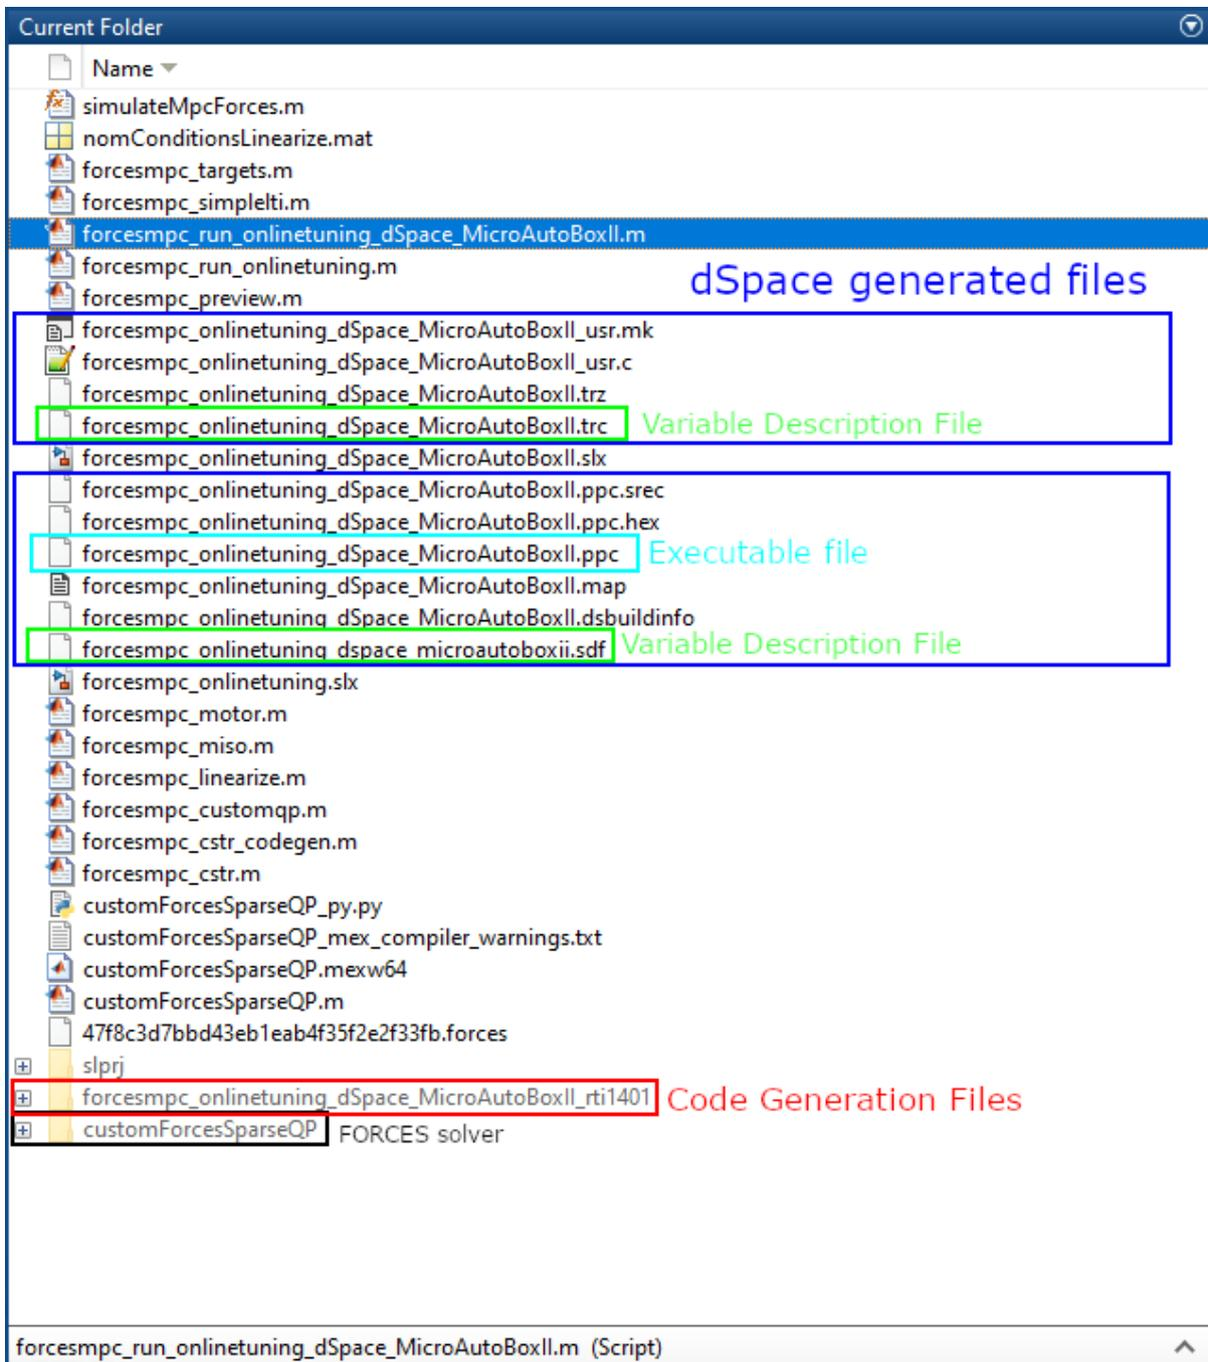

Figure 6.7: The generated files from the Simulink Code Generation
- After code generation the dspace compiler (Microtec PowerPC) generated files to use to run your model on the MicroAutoBox II (see Figure 6.7).